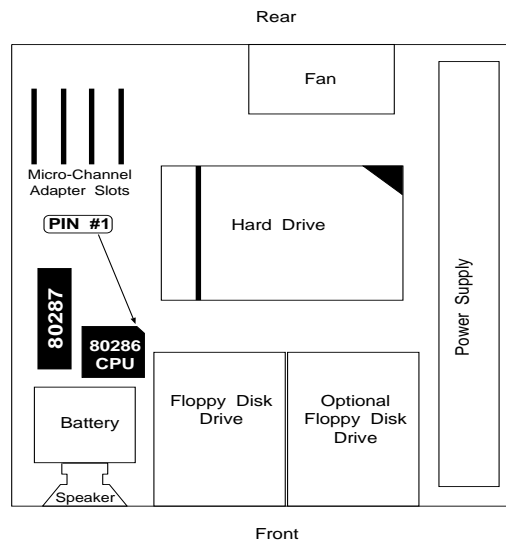

Figure 5. IBM PS/2 Model 50
12. If you have an 80287 coprocessor installed, this must also be removed. Locate the 80287 coprocessor as shown in figure 5 and insert the IC removal tool under the corner of the chip. Gently pry upwards, repeat for all 4 corners. Once the pins have been sufficiently exposed remove with your fingers. (Save the 80287 coprocessor in the event you need to temporarily return to the old configuration.)